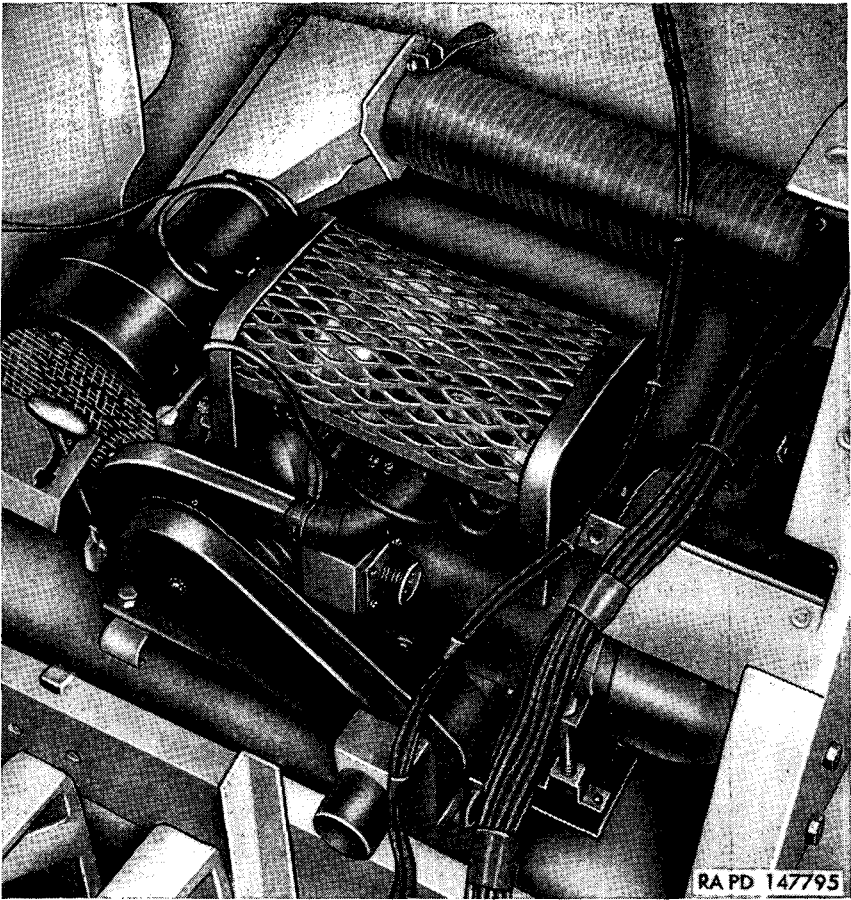
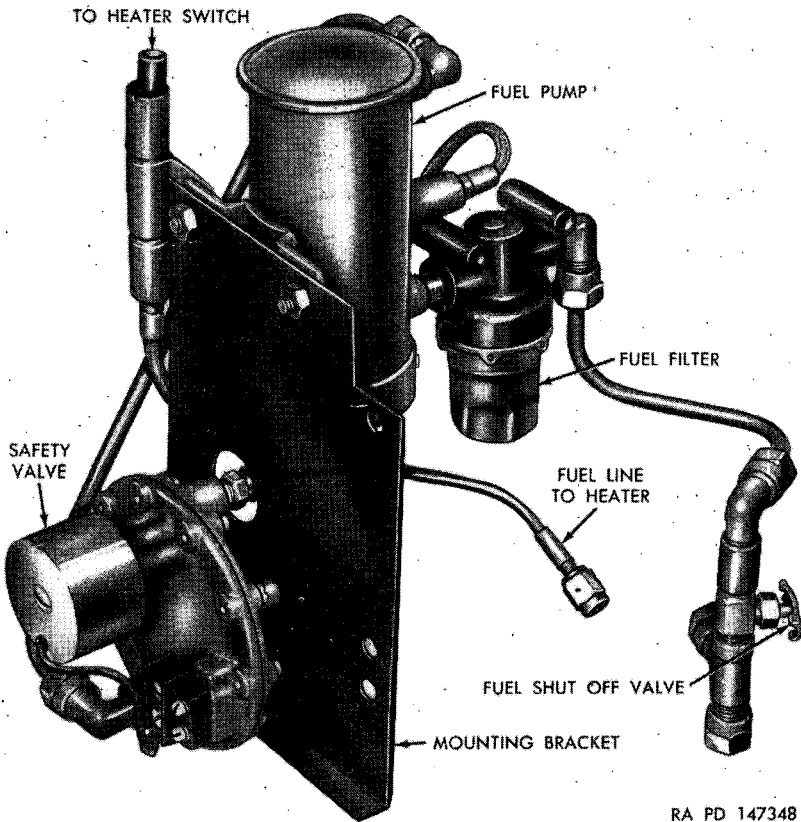

Figure 328. Crew compartment heater—installed view.
Figure 332. Crew compartment heater fuel pump, safety valve, and filter.
(1) *Description.* The crew compartment heater (fig. 328) which produces heat by burning a gasoline-and-air mixture inside a sealed combustion chamber, is installed in the driver's compartment under the instrument panel. The heater switch, heater safety valve reset switch, and circuit breaker reset button are grouped together on a separate personnel heater panel mounted on the accessory panel (fig. 18). The heater thermostat (fig. 76) is installed on the column to the rear of and between the driver and assistant driver. A separate fuel filter, fuel pump, safety valve, and fuel shut-off valve are mounted on a bracket (fig. 332) to the left of the heater.
(par. 17). Disconnect line from fuel pump at fuel line connection on heater (fig. 329). Disconnect electrical cable from heater to safety valve at terminal block on safety valve (fig. 332). Disconnect flexible hose from heater. Disconnect heater exhaust line at heater. Remove electrical connector plug from connector receptacle (fig. 329) on front of heater. Remove mounting bolts from heater and remove heater.
b. **INSTALLATION.** Position heater in driver's compartment (fig. 328) and install mounting bolts. Connect flexible hose to heater. Connect heater exhaust line. Install electrical connector plug in connector receptacle (fig. 329) on front of heater. Connect electrical cable from heater to top terminal screw in terminal block on safety valve (fig. 332). Connect fuel line to heater at fuel line connection (fig. 329). Open fuel shut-off valves (par. 17). Install manual control box (par. 257).
a. **REMOVAL** (fig. 332). Turn off master relay switch (fig. 18). Close heater-fuel-shut-off valve. Disconnect electrical cable at con-
b. **INSTALLATION** (fig. 332). Position fuel pump to mounting bracket and secure with two nuts. Install fuel filter on pump. Connect fuel line at top of fuel pump. Connect electrical cable at connector on fuel pump. Open heater-fuel-shut-off valve.
The fuel filter and the sections of fuel line from fuel shut-off valve to fuel filter, from fuel pump to safety valve, and from safety valve to heater are all removed in the same manner. Shut off the heater-fuel-shut-off valve (fig. 332). Disconnect fuel line connector nuts at both ends of the section to be removed, and remove filter or fuel line section. To install, position filter or fuel line section and secure connecting nuts. Open the fuel shut-off valve to permit operation.
a. **REMOVAL** (fig. 332). Turn off master relay switch (fig. 18). Close heater fuel shut-off valve. Disconnect electrical cable from terminal block on safety valve. Disconnect both fuel lines at safety valve. Remove screws holding safety valve on mounting bracket and remove safety valve.
b. **INSTALLATION** (fig. 332). Position safety valve to mounting bracket and secure with screws. Connect both fuel lines to safety valve. Connect electrical cable from heater to top terminal screw in terminal block on safety valve. Open heater fuel shut-off valve.